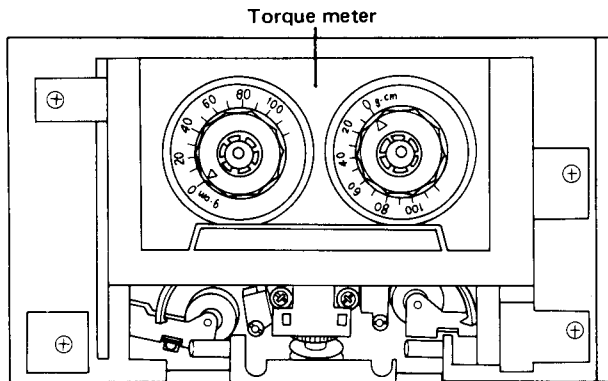

Fig. 4-6 Take-up torque adjustment
5. Check that the take-up torque is within  $35 \sim 55 \text{ g-cm}$  (Fig. 4-6).